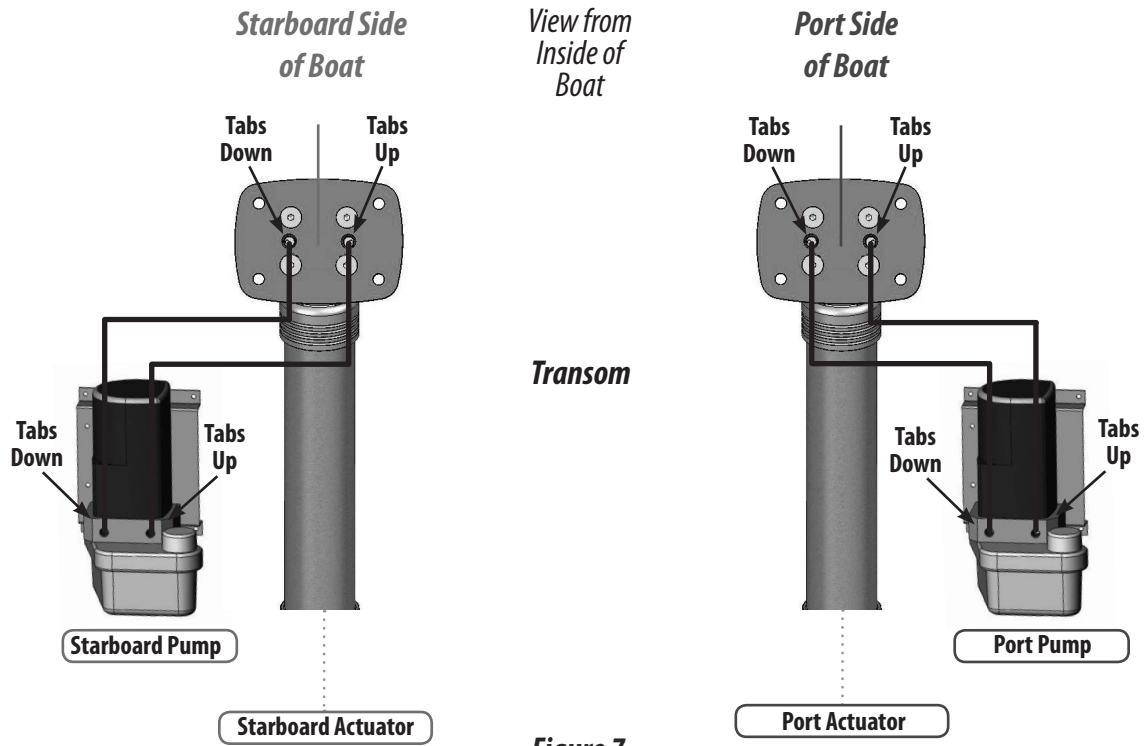
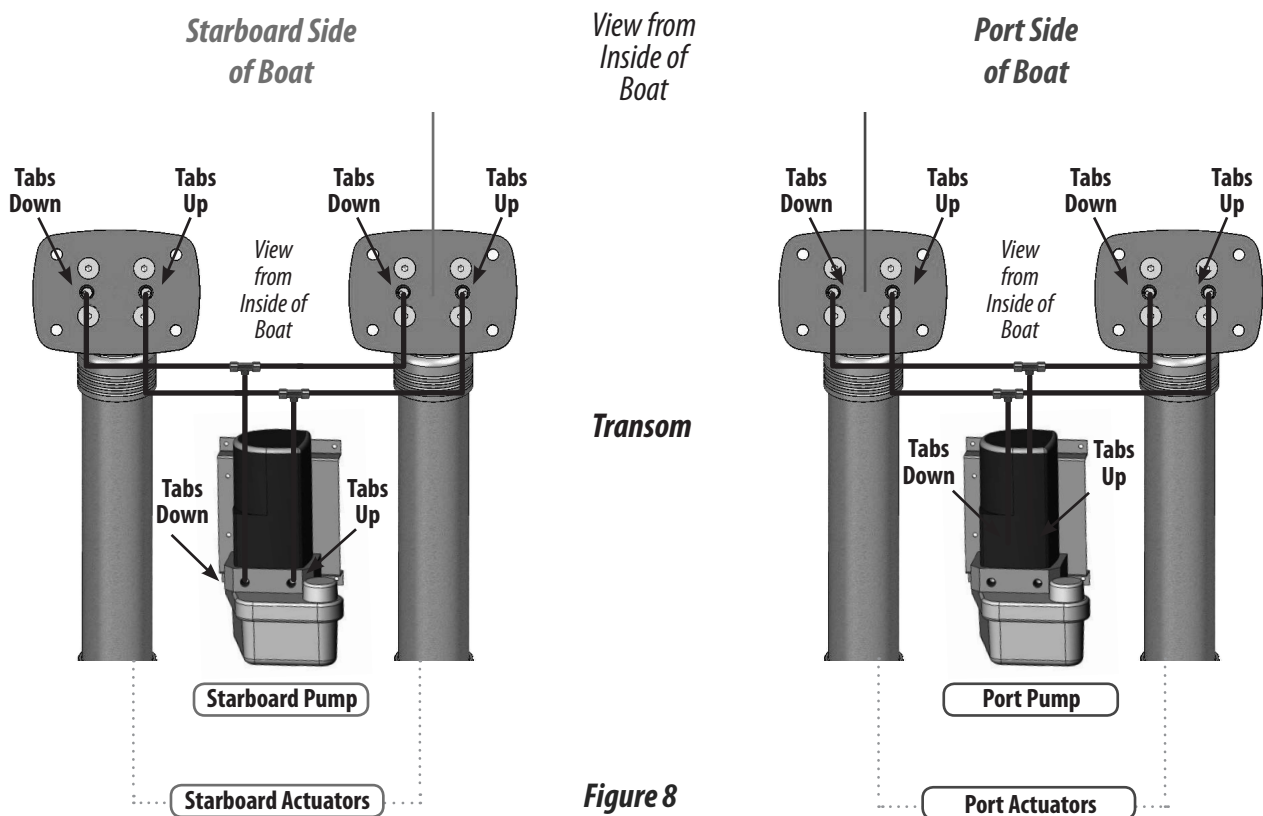

Figure 7
Figure 8
**Single Actuator System:** Run hydraulic tubing between the actuators and cut to length. Secure tubing as needed. (See next page, Figure 7 for Single Actuator Systems.) **Dual Actuator Systems:** Run tubing from the Pumps to the desired Brass Line-T location as shown. Secure as required. (See Figure 8 for Dual Actuator Systems.) Use tube bending clips at desired 90° bends in tubing to prevent kinking.